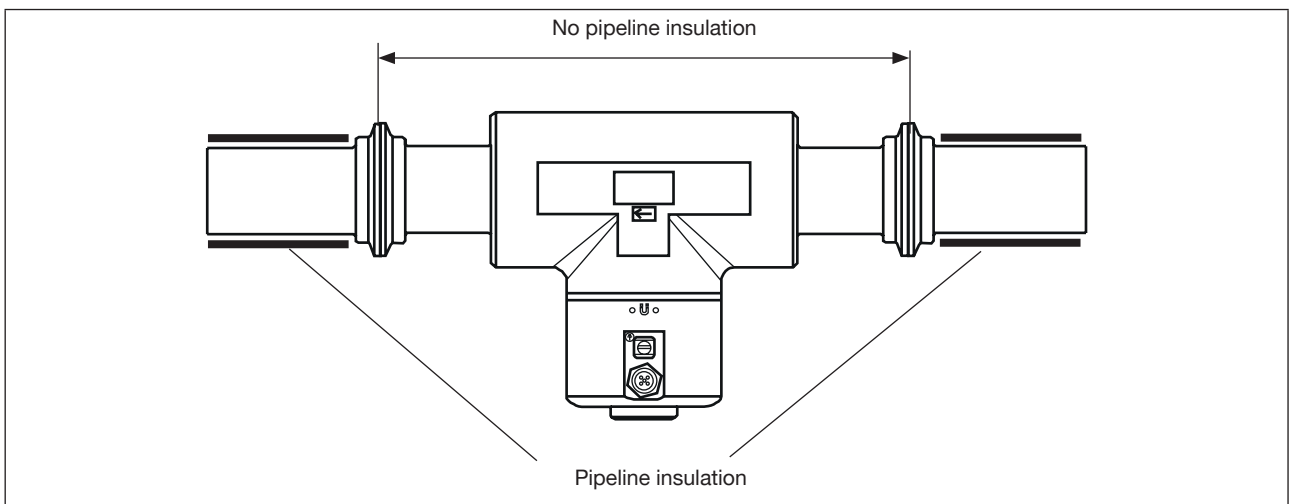

Figure 10: Thermal insulation of the pipeline
- If the pipeline is fitted with a thermal insulation, do not thermally insulate the measurement tube of the device to make sure that the temperature in the device is less than 70°. Refer to Figure 10 and, for the minimum supply voltage, to chpt. 8.3.